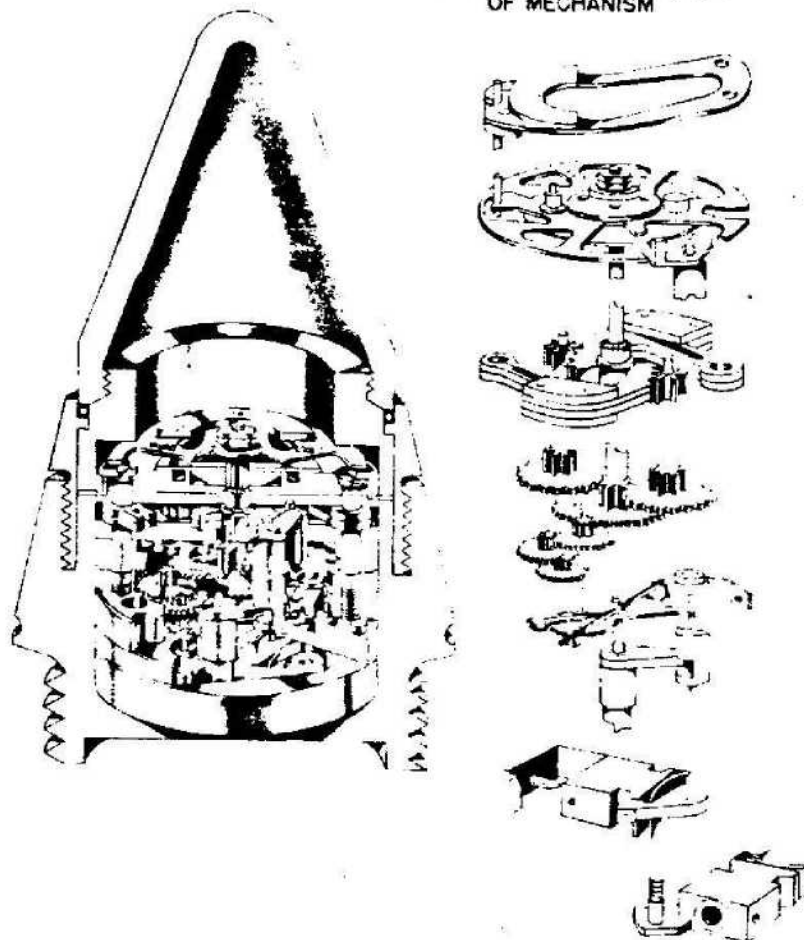

Figure 594—Zi. Z. S/30 Fgl.
**EMPLOYMENT:** Mechanical Time Nose Fuze used in 8.8-cm and 10.5-cm H. E. antiaircraft shells. (See fig. 594.)